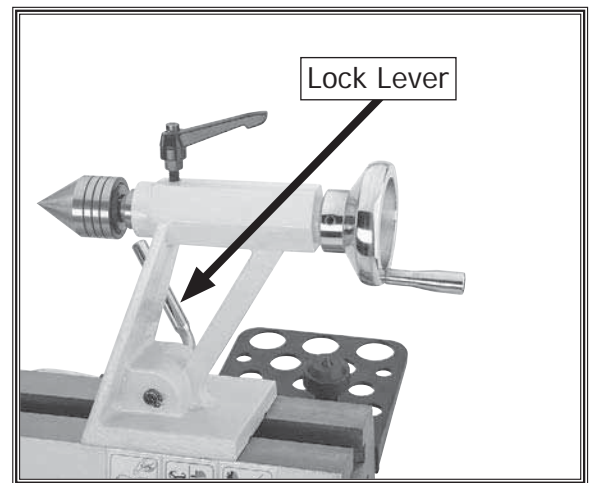

Figure 21. Location of tailstock lock lever for moving tailstock along bed.
1. Loosen lock lever and slide tailstock to desired position (see Figure 21).